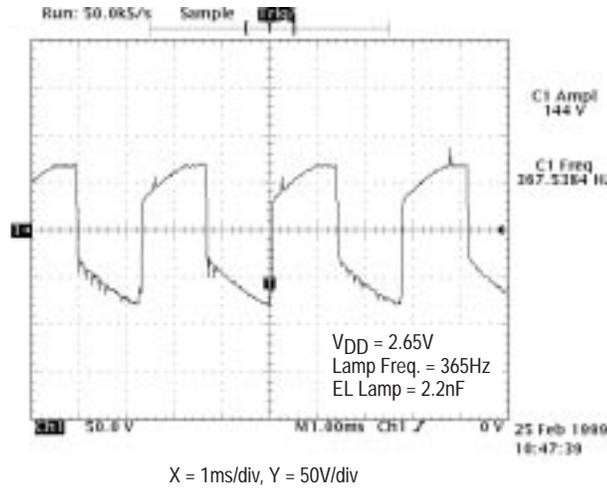
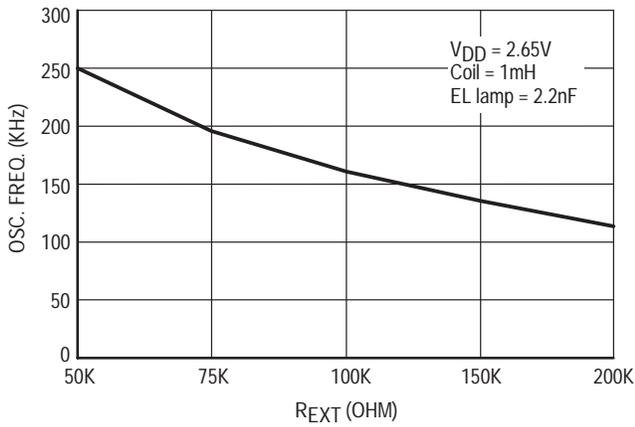

Figure 3. Output Waveform vs. Time
Figure 4. Oscillator Frequency vs. REXT
Since the fundamental frequency of the oscillator is set by the external resistor (R1), the temperature coefficient of the frequency is dominated by the value of this resistor. A low temperature coefficient (TC) resistor is suggested to use for keeping the variation of oscillator’s frequency low against the operation temperature range. (See Page 4, Fig. 3 & Fig. 4)